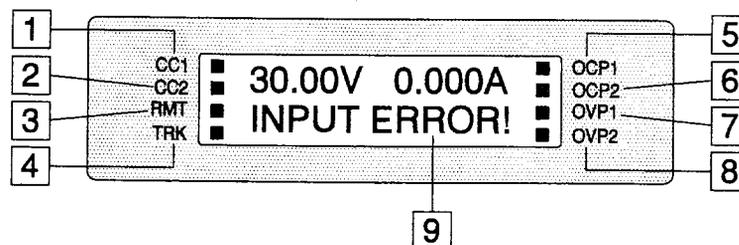

Figure F -1. LCD of models 1775/1780
**LIQUID CRYSTAL DISPLAY:** Figure F-1, F-2,